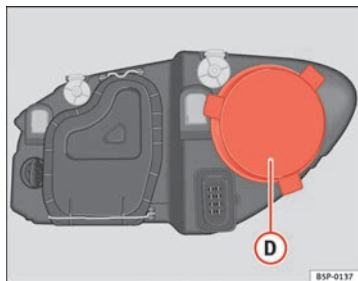

Fig. 169 Side lights
- Remove the cover ⇒ fig. 169 **D** by pulling on this.